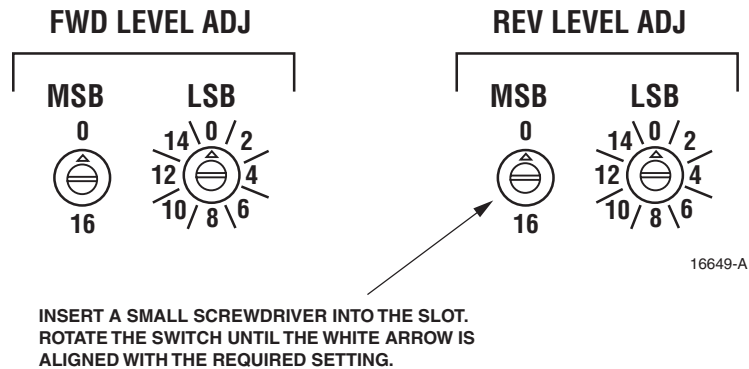

Figure 14. Rotary Switch Adjustment
5. Using a small screwdriver, adjust the FWD LEVEL ADJ rotary switches to insert the gain required to provide a **-20 dBm** signal at the DHU. The RIU provides a forward path signal adjustment range of from $+9$ dB to $+40$ dB. Refer to Figure 14 for a description of how the rotary switches work and to Table 4 for the adjustment settings.
5. Using a small screwdriver, adjust the REV LEVEL ADJ rotary switches to insert the gain required as determined in step 4. Refer to Figure 14 for a description of how the rotary switches work and to Table 4 for the adjustment settings.